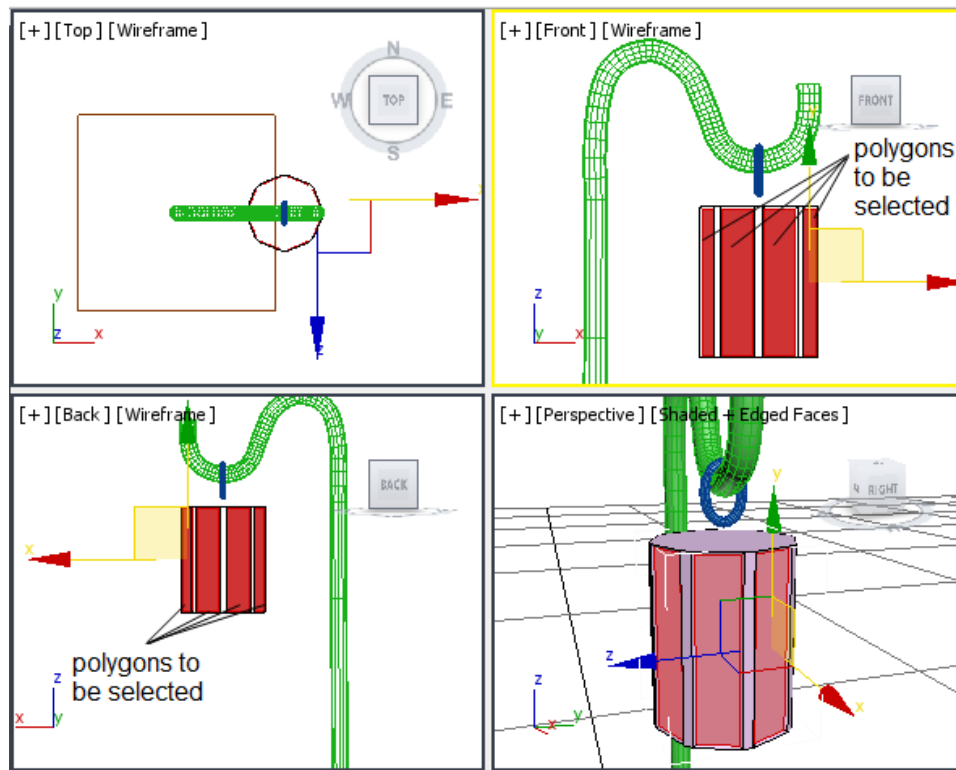

Figure 5-33 The selected polygons between chamfered edges
8. Select the **Polygon** sub-object level from the **Selection** rollout and then select all polygons between the chamfered edges, as shown in Figure 5-33.